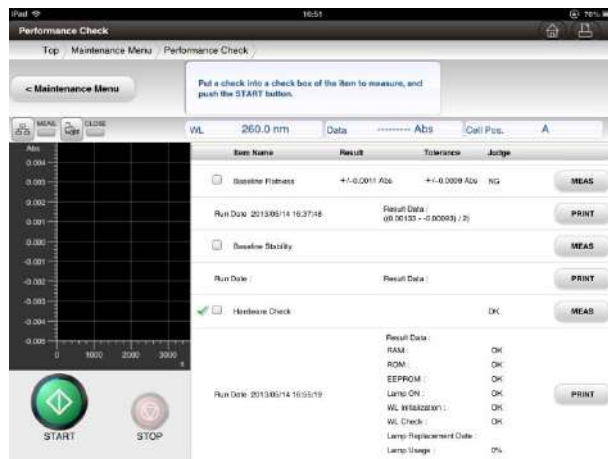

Fig. 6-20 Hardware Check Screen
- (2) After RAM, ROM, lamp, Wavelength drives, Wavelength and lamp usage checks are performed, the Hardware Check screen (Fig. 6-20) is displayed. The result is displayed after each item is checked.